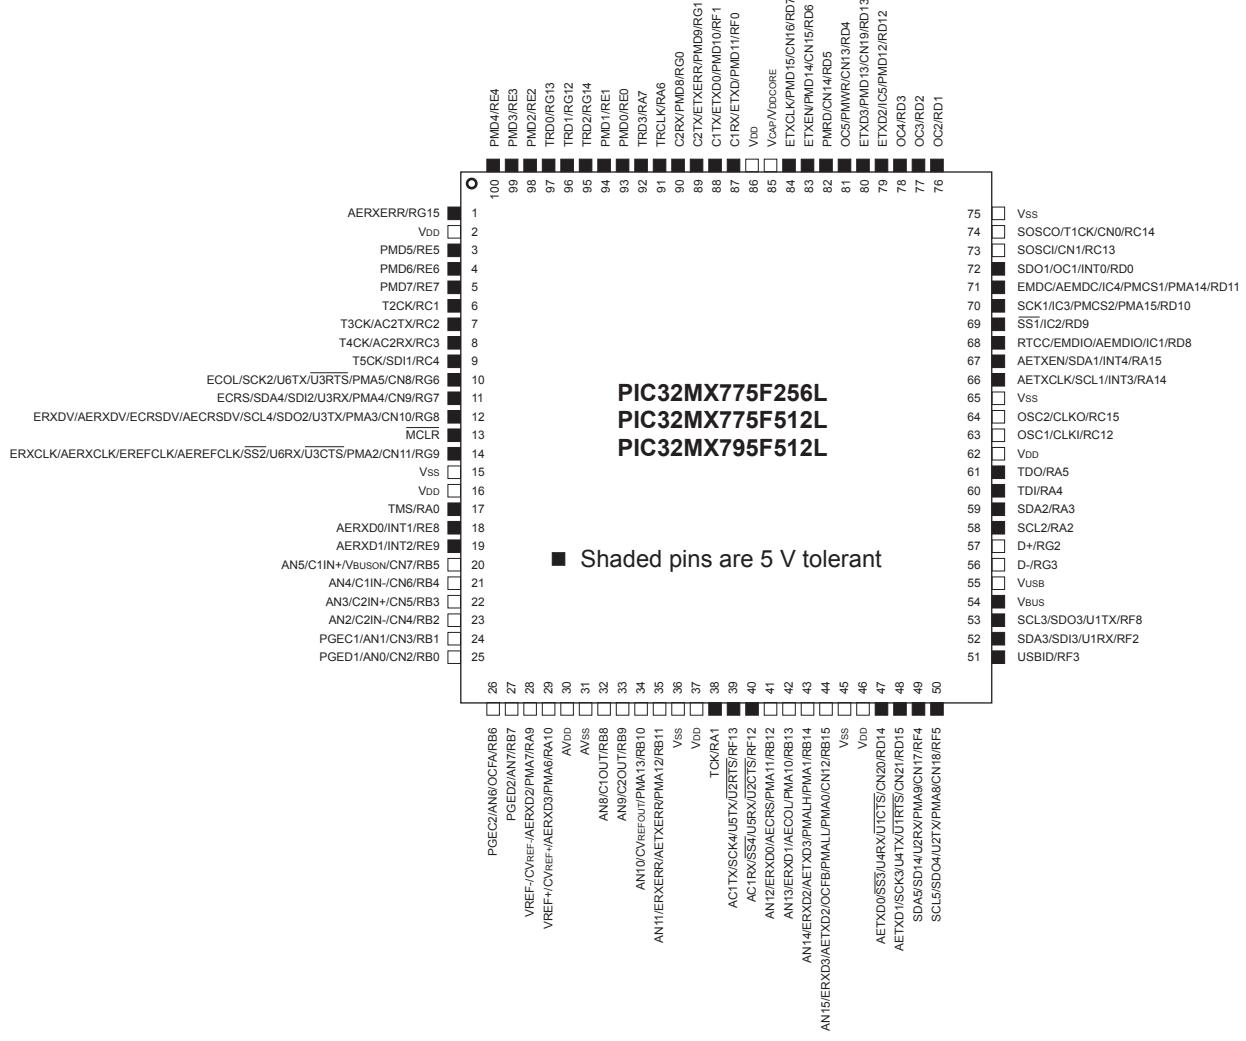

Figure 2.1: The pinout of the PIC32MX795F512L used on the NU32.
To cram so much functionality into only 100 pins, many pins serve multiple functions. See the pinout diagram for the PIC32MX795F512L (Figure 2.1). As an example, pin 21 can be an analog input, a comparator input, a change notification input (which can generate an interrupt when an input changes state), or a digital input or output.
For example, pin 78 in Figure 2.1 can serve as OC4 (output compare 4) or RD3 (digital I/O number 3 on port D). Let's say we want to use it as a digital output. We can modify the SFRs that control this pin to disable the OC4 function and to choose the RD3 function as digital output instead of digital input. The PIC32MX5xx/6xx/7xx Data Sheet explains the memory addresses and meanings of the SFRs. Be careful, because it includes information for many different PIC32 models. Looking at the data sheet section on Output Compare reveals that the 32-bit SFR named "OC4CON" determines whether OC4 is enabled. Specifically, for bits numbered 0 ... 31, we see that bit 15 is responsible for enabling or disabling OC4. We refer to this bit as OC4CON(15). If it is cleared (0), OC4 is disabled, and if it is set (1), OC4 is enabled. So we clear this bit to 0. (Bits can be "cleared to 0" or simply "cleared," or "set to 1" or simply "set.") Now, referring to the I/O Ports section of the Data Sheet, we see that the input/output direction of Port D is controlled by the SFR TRISD, and bits 0-15 correspond to RD0-15. Bit 3 of the SFR TRISD, i.e., TRISD<3>, should be cleared to 0 to make RD3 (pin 78) a digital output.
Digital Input and Output A digital I/O pin configured as an input can be used to detect whether the input voltage is low or high. On the NU32, the PIC32 is powered by 3.3 V, so voltages close to 0 V are considered low and those close to 3.3 V are considered high. Some input pins can tolerate up to 5.5 V, while voltages over 3.3 V on other pins could damage the PIC32 (see Figure 2.1 for the pins that can tolerate 5.5 V).